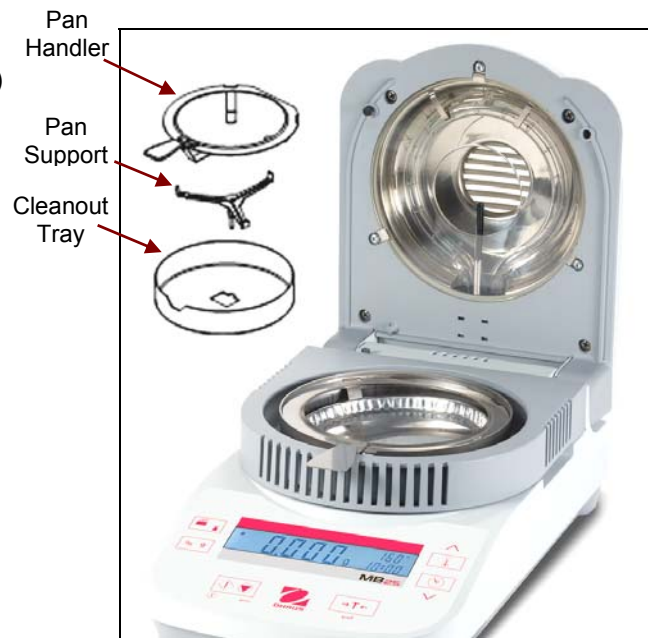

Figure 3-42. MB25 with top open.
12. Install the Pan Handler, Pan Support and Cleanout Tray. (See Figure 3-42.)